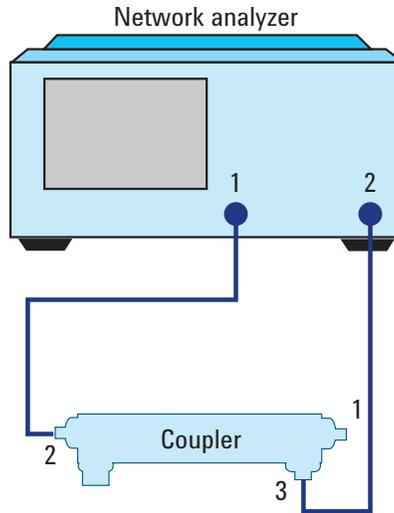

Figure 12. Equipment setup using network analyzer with coupler port 2 and port 3
8. Reverse the coupler as shown in Figure 12. Measure and record directivity (S_{32}/S_{31})³.